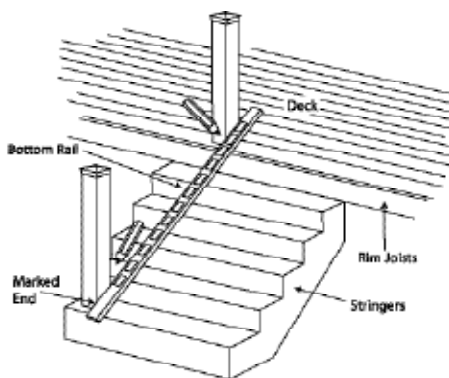
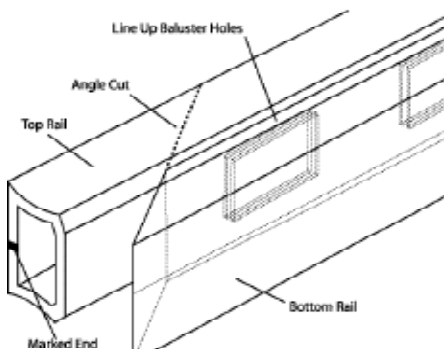

Figure 7
Figure 8
5. Lay bottom rail on stair with marked end (Fig. 8) at lower post. Center the rail between the posts so that the distance from the post to the first baluster hole is equal on both ends (Fig. 7).
8. Using bottom rail as a guide, line up top rail baluster holes with bottom rail baluster holes and with the "marked" ends together (Fig. 8). Mark the cut lines on the top rail.